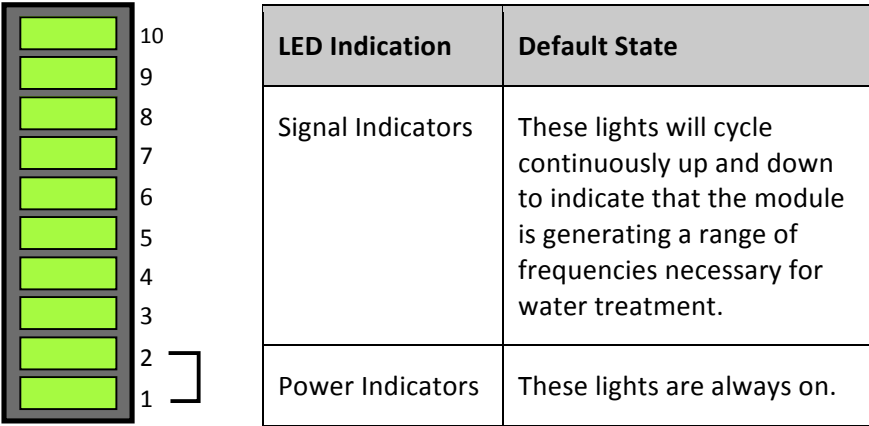

Fig. 8 - LED Bar Graph Indication
- Once powered, the LED bar graph will start pulsating, indicating successful Quick Coil Connection and proper operation of the Control Module. See Fig. 8 for further details.